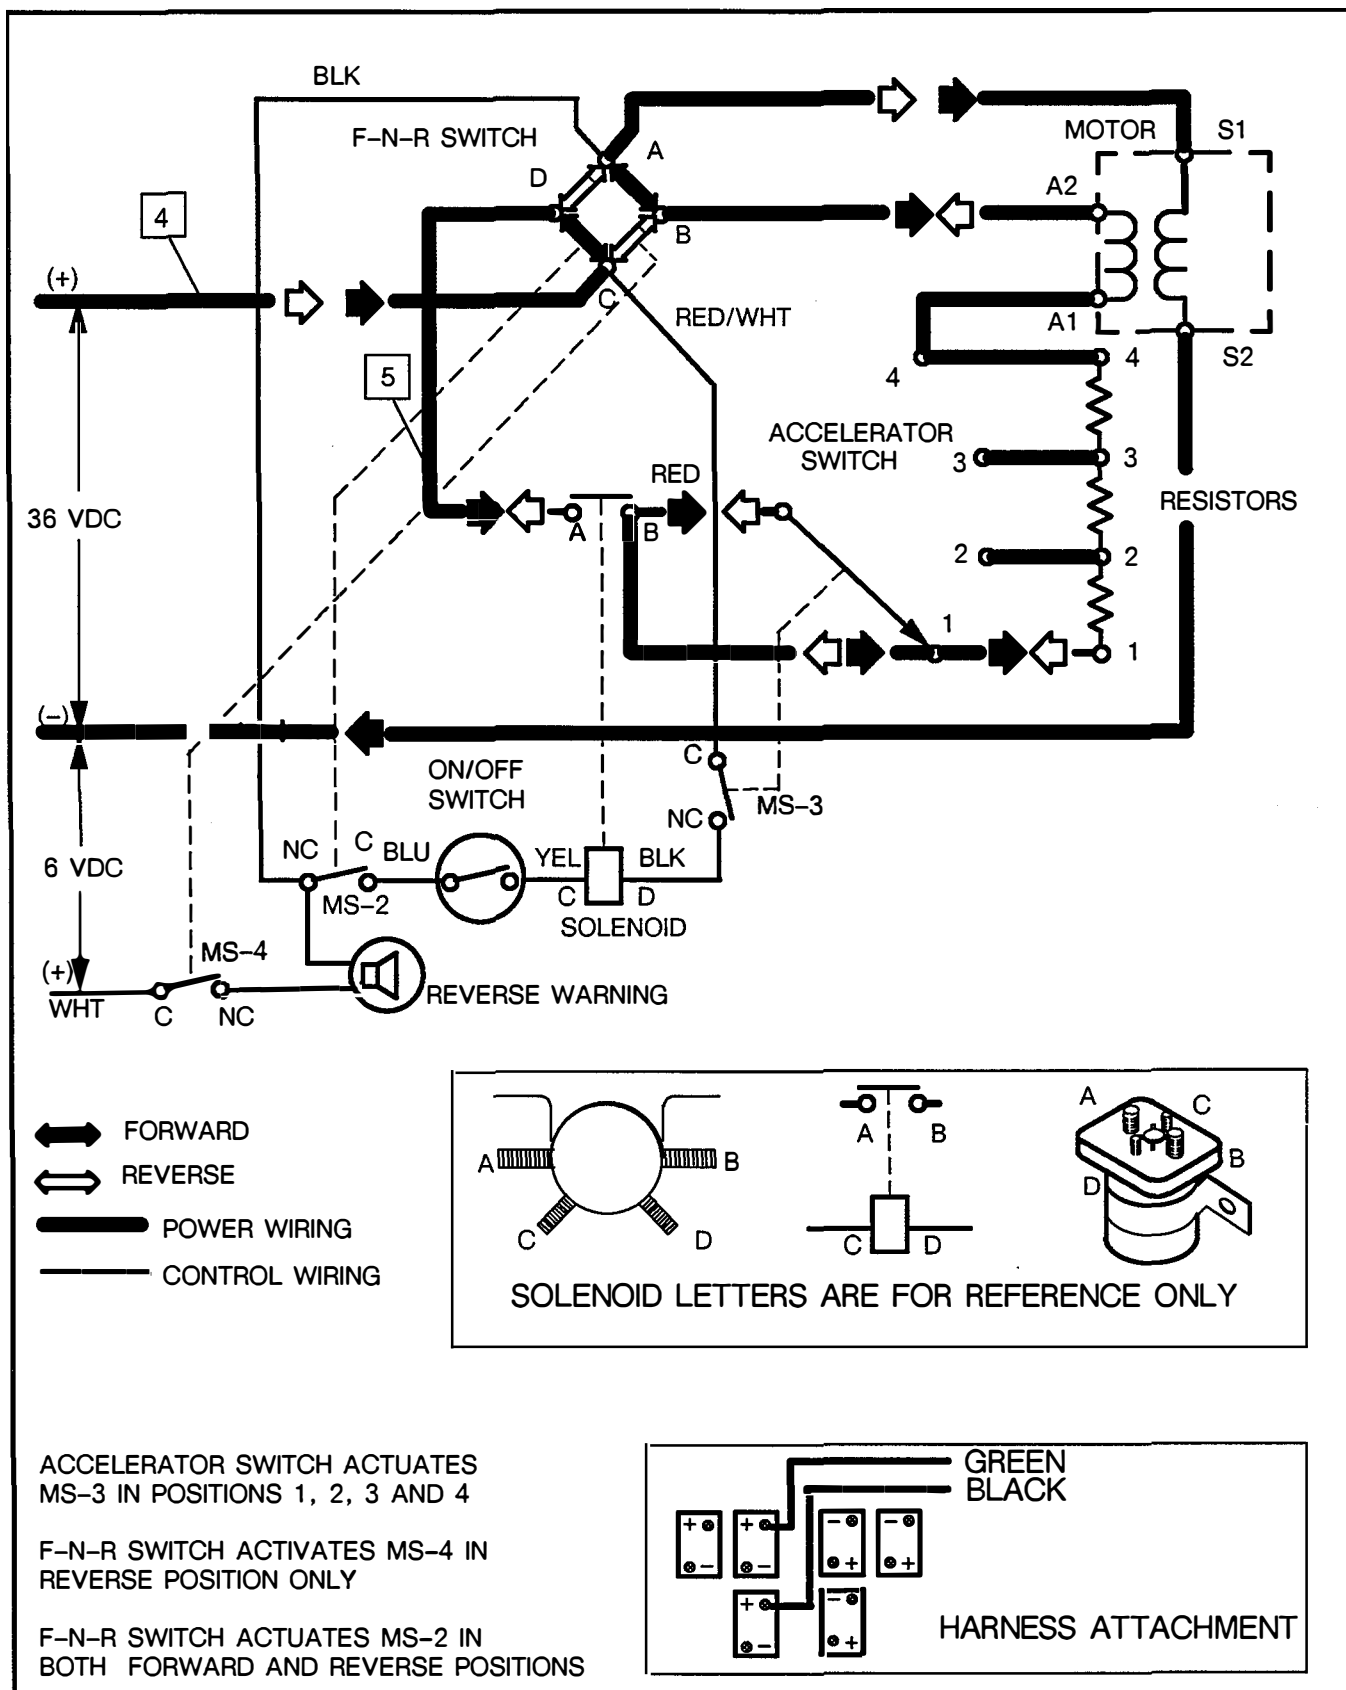

FIG. K-9 ELECTRIC VEHICLE WIRING DIAGRAM
To remove the accelerator switch assembly (1) from the vehicle, disconnect the wire #4 (FIG. K-9) at the batteries. (See Safety Procedures in Section B.)
Disconnect the wire #5 (FIG. K-9) at the forward-neutral-reverse switch.
Disconnect the red/white wire at the micro switch, the yellow wire at the solenoid and the wire from motor terminal A1 (FIG. K-9). Disconnect the accelerator linkage (2) from the accelerator switch arm (3) (See Section F). Loosen nut (4) and lift assembly (1) to gain access to hardware (5 and 6) securing power wiring to the switch. Remove wiring.